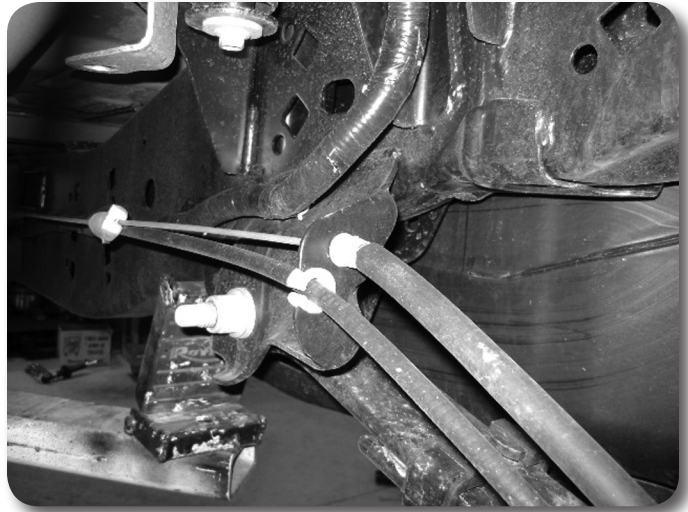

Figure 21
5. Compress the retaining tabs and remove the driver's side cable from the spring hanger **Figure 21**. It will be relocated and reconnected later.